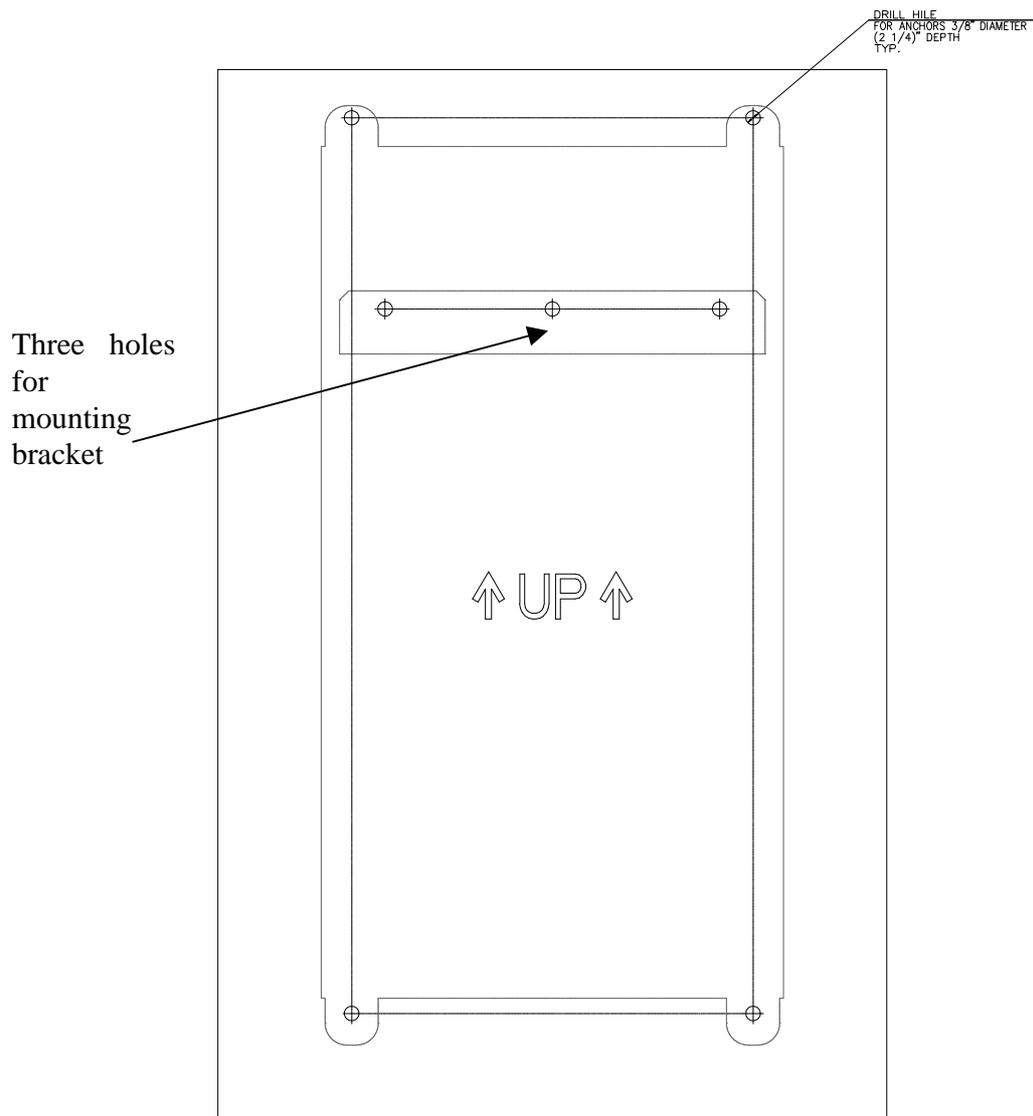
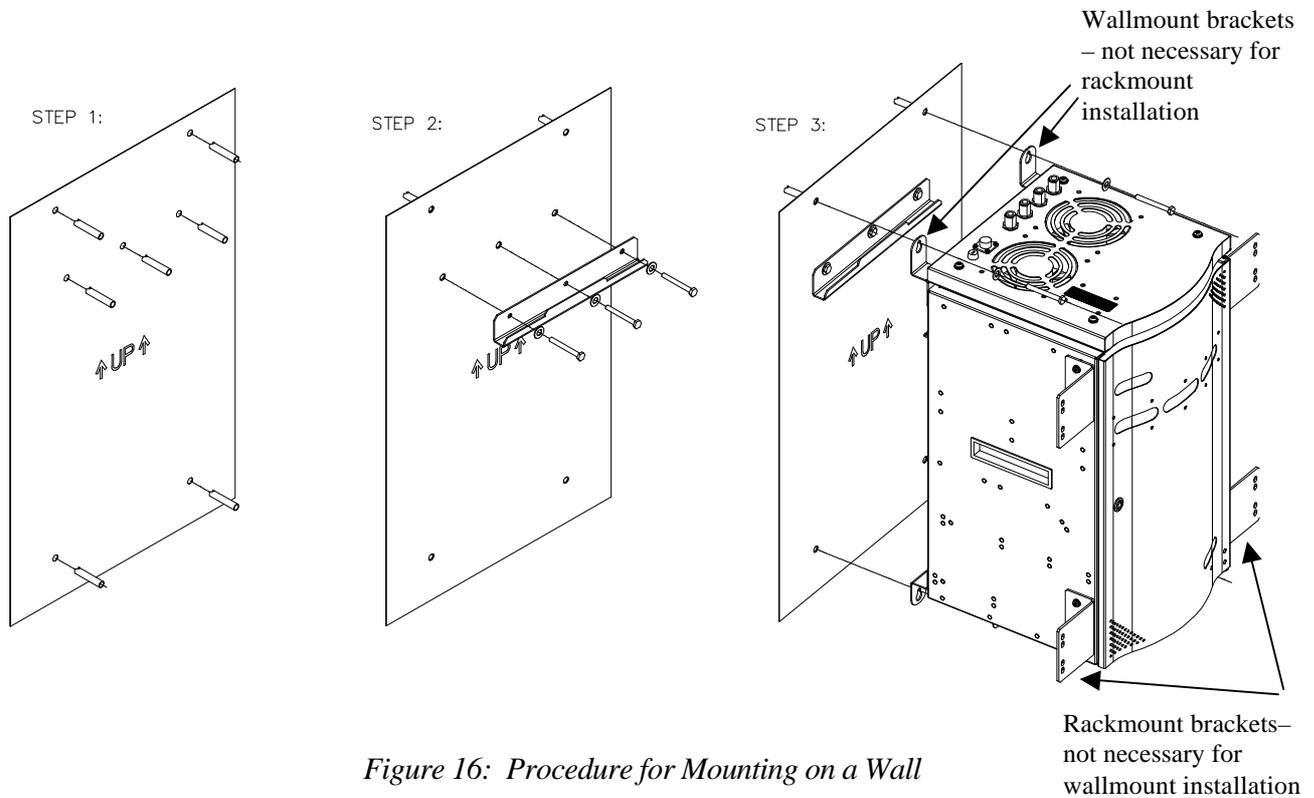

Figure 15: Wallmount Template
Figure 16: Procedure for Mounting on a Wall
Please refer to Figure 15 and to Figure 16.
4. Remove the three screws from the anchors in the holes designated in Figure 15 for the mounting bracket. In the other four anchors loosen but do not remove the screws.
For a rackmount installation, attach the MRC to the rack using the rackmount brackets (see Figure 16). The MRC should be hung in the lower section of the rack. Use 12 mm M6 screws.